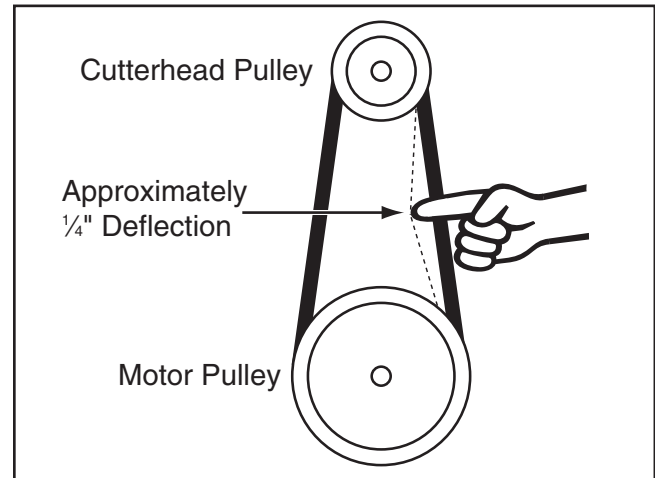

Figure 40. Correct belt deflection when properly tensioned.
3. Check belt tension: Each belt is correctly tensioned when there is approximately 1/4" deflection when it is pushed with moderate pressure, as shown in **Figure 40**.